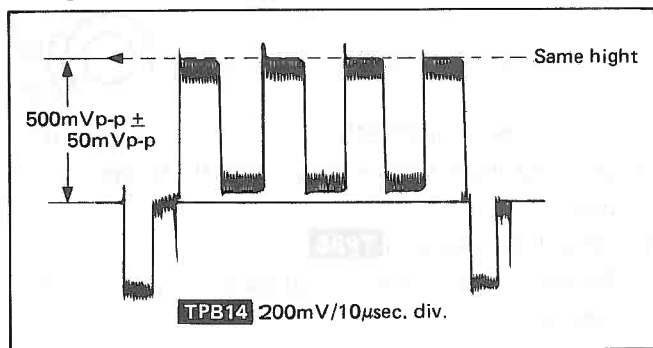

Fig. 39
- Adjust Chroma VR (R5804) and Phase VR (R5809) so that the waveform **TPB14** becomes as shown in Fig. 39.